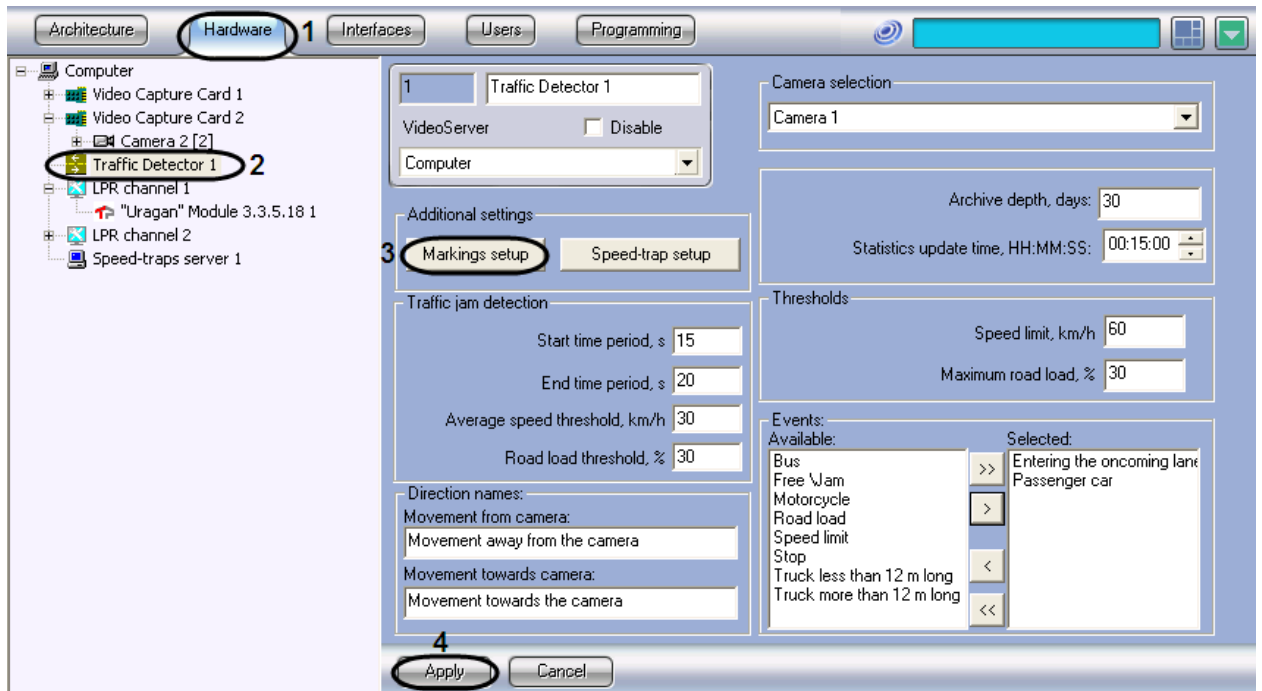

Fig. 7.4—11 Importing the markings file
2. In the object tree on the left side of the Hardware tab, select the Traffic Detector object representing the Traffic Detector module to be set up. The settings panel of the selected object will open on the right side of the window (see Fig. 7.4—11).